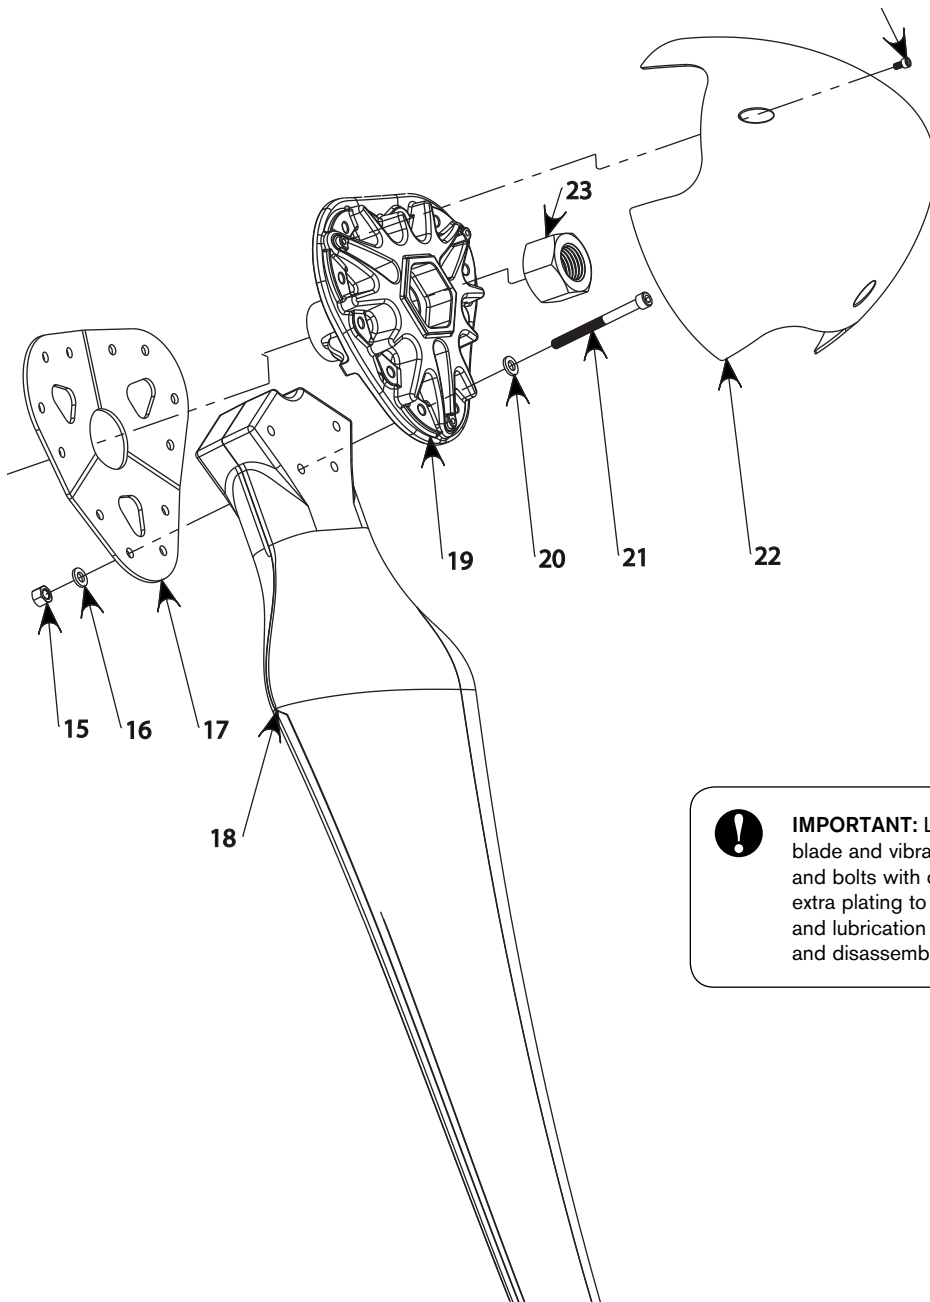

Fig. 16 Blade and nosecone assembly
Refer to **Fig. 16** (page 27) for visual aid.
- Place a blade between the blade hub and blade mounting plate. Refer to **Fig. 16** (page 27) for proper orientation.